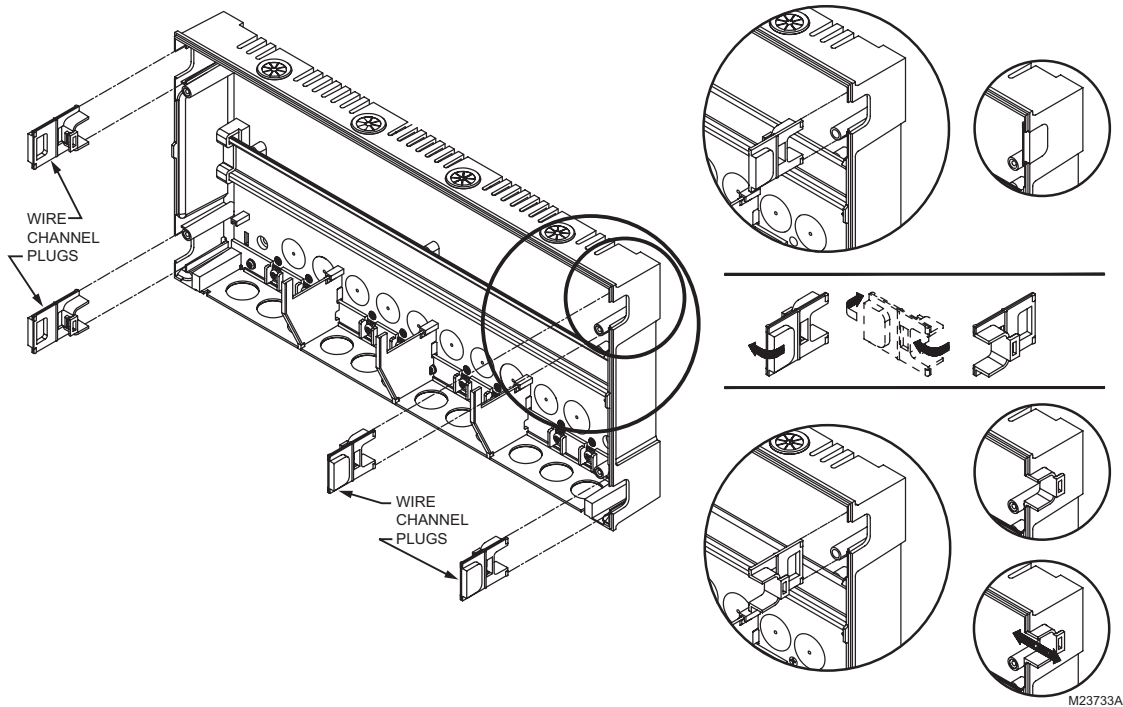

Fig. 2. Orientation of wire channel plugs for creating pass-through wire channel and for joining Control Panel to Expansion Zoning Panels.
Mount the control panel on the wall using Fig. 2 as a guide:
1. Remove wire channel plugs from the AQ254 Control Panel and any Expansion Zoning Panels (see Fig. 2).